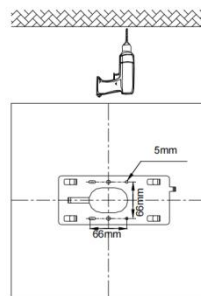

Figure 4
Step 2: Drill the holes on the ceiling accordingly to fit the plate (Figure 4).